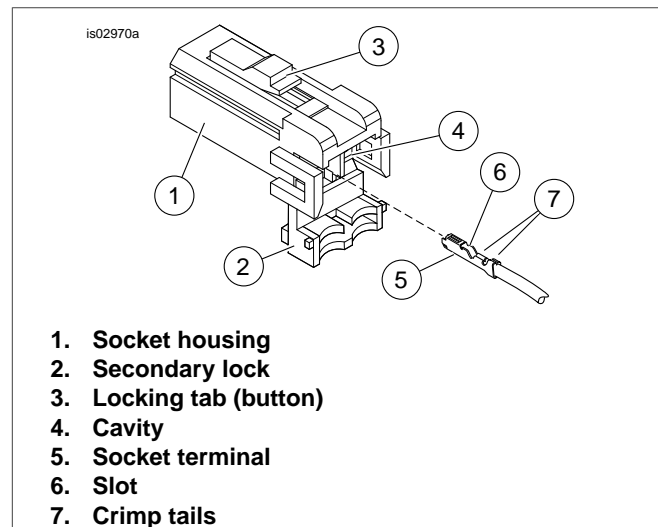
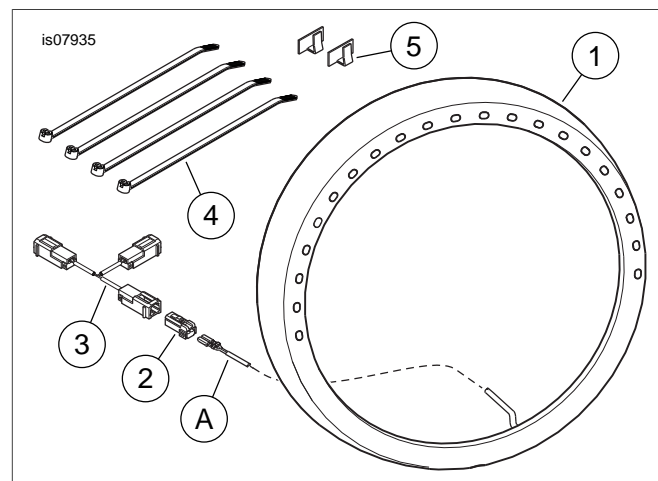

Figure 1. Socket Terminal Installation
Figure 2. Service Parts, Electra Glo Trim Ring Kits for Seven Inch Headlamp
See Figure 2 and Table 1.
2. See Figure 2. Install the **new** Electra Glo trim ring (1) to the vehicle with the mounting screw from Step 1.
3. Route the trim ring wires (A) into the nacelle and out the left side of the frame.
4. See Figure 1. Insert the trim ring wire socket terminals into the connector (2) from the kit per the Tyco/AMP connector section of the service manual: